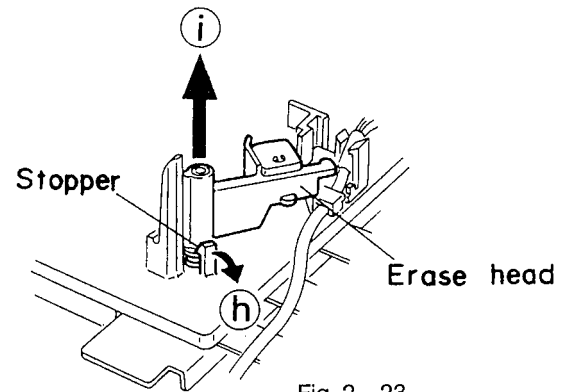

Fig. 2 - 23
■ Flywheel assembly (Fig. 2 - 24)
1. E. washer retaining the flywheel assembly in the direction of arrow ④.
2. Pull the flywheel assembly out of the back side of the cassette mechanism in the direction of the arrow ⑤.